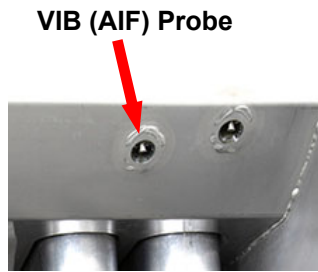

Figure 22
2. Drain cooking oil below the level of the VIB (AIF) probe to be replaced (see Figure 22). The VIB (AIF) probe is the lower probe in the wall of the frypot.